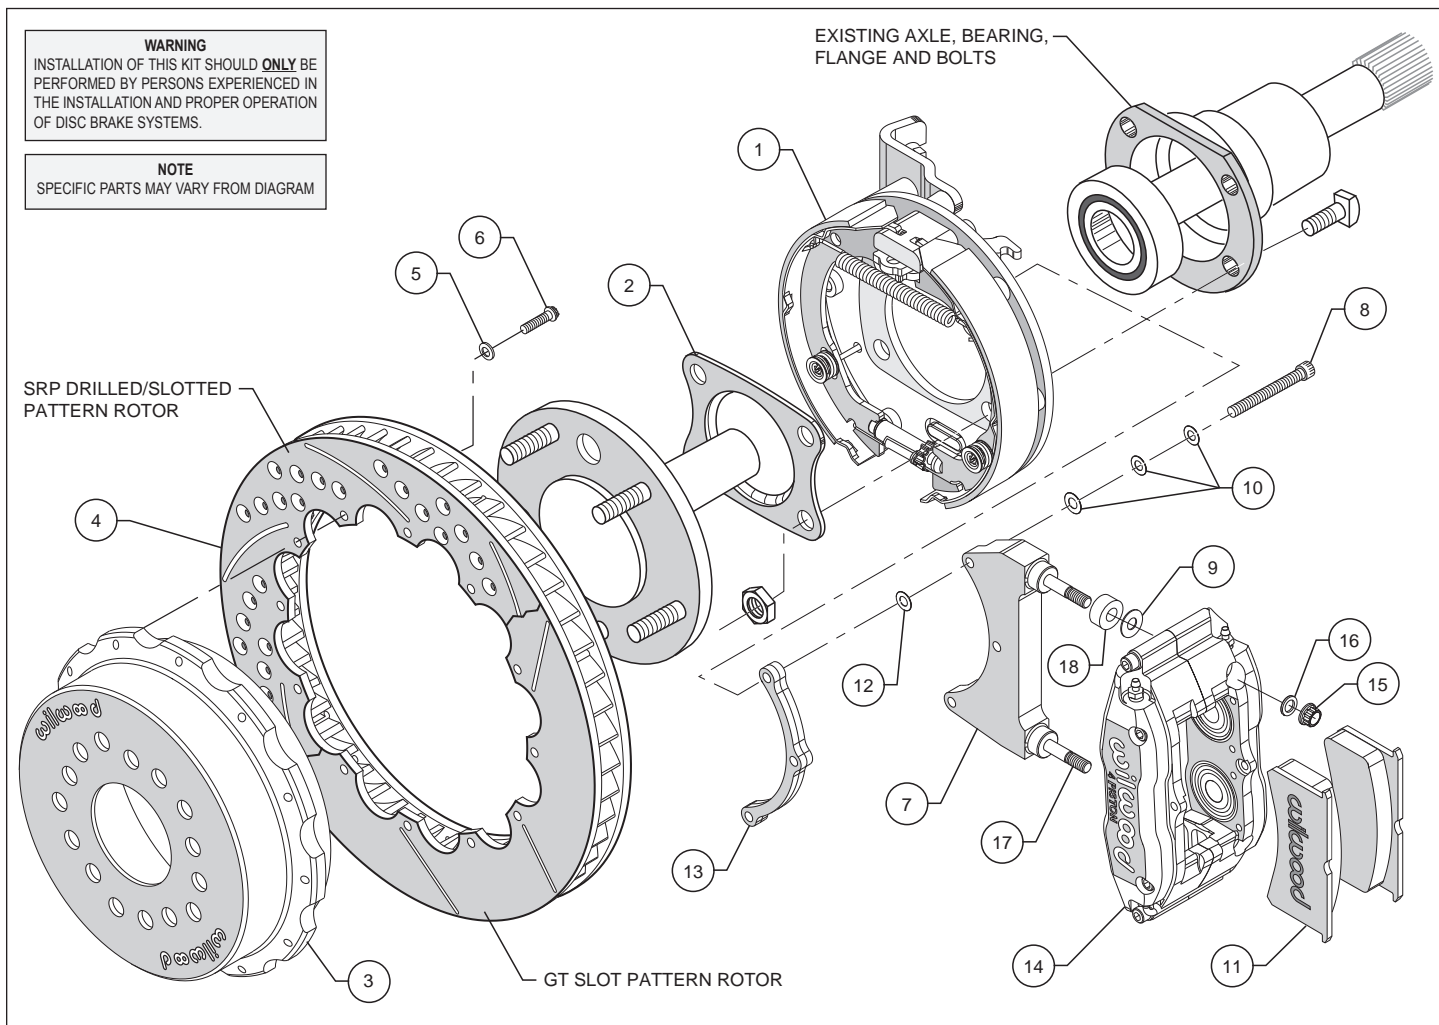

Figure 1. Typical Installation Configuration
- Full Circle Retainers** require the utilization of a qualified machine shop to press off the axle bearing and OEM retainer. Then have machine shop install new retainer (2), supplied with bracket kit with lip facing toward bearing, reference Figures 1, 4 and 5 (we suggest that you install a new bearing at this time, not supplied with kit).
- "U" Retainers** require the removal of the OEM retainer by cutting or grinding a notch in the retainer to facilitate removal. Once OEM retainer is removed, install new retainer (2) supplied with bracket kit with the "U" opening facing up and the lip facing toward bearing, reference Figures 1, 4 and 5.
•Align the correct hole pattern in the hat (3) with the stud pattern on the axle flange. **NOTE:** Some OEM and aftermarket axles come with stud sizes larger than 0.50" diameter. Verify stud size and have a qualified machine shop drill the hats to the correct size, if necessary. Slide the hat/rotor assembly (3 and 4) over the wheel studs covering the bracket kit assembly (1) and against the axle flange face. Check to be sure the hat seats squarely against the hub. Install a couple of lug nuts (finger tighten) to keep the rotor/hat assembly in place while continuing with the installation.
•**NOTE:** Please reference the caution statement at the beginning of the assembly instructions. The caliper mounting bracket assembly (7) should be installed first with clean, dry threads on the mounting bolts (8). Install the bracket from the rear side of the bracket kit assembly (1) by sliding bolt (8) through three flat washers (10), bracket (7), shim washer (12) and finally through the spacer (13), see Figure 1. **NOTE:** End of bolt should not exceed inside face of insert. The bracket must tighten squarely against the back side of the bracket kit assembly (1). Inspect for interference from casting irregularities, machining ridges, burrs, etc. Use one thin shim (12) between the bracket (7) and spacer (13) during initial trial fitting.
•Install one spacer (18) and one shim (9) over each pre-installed stud (17) on the radial mount bracket (7). Slide the caliper (14) in place over the studs and rotor, then install the washer (16) and lock nut (15) to hold the caliper in place. The caliper bleed screws should be pointing up. Snug the lock nuts (15) and check that the rotor (4) is centered in the caliper (14). Add or subtract .015" shims (12) as necessary between the caliper mounting bracket (7) and the spacer (13) to center the caliper (9).
•Remove the caliper center bridge pad retainer bolt, nut, and tube from the caliper. Slide the brake pads (11) into place. They should install easily without interference. Check that the outside radius of the brake pad is aligned with the outside diameter radius of the rotor face. Add or subtract shims (9) between the caliper (14) and mount bracket (7) to gain the proper alignment. Reinstall the center bridge pad retainer tube, bolt, and locknut. The locknut should be snug without play in the bolt or tube. Be cautious not to over tighten.
•Adjust the parking brake shoes outward (using a drum shoe adjustment tool available at your local auto parts store) while spinning the hat (3) until a slight drag is felt against the hat/drum. Remove the lug nuts that were holding the hat/rotor in place. Install the wheel and lug nuts. Check to see that the wheel rotates freely without interference.
•Once all clearances have been checked, remove the wheel, caliper, hat/rotor from the bracket kit assembly (1). Secure the caliper mounting bracket (7) to the bracket kit assembly (1) using red *Loctite*® 271. Torque bolts (8) to 180 in-lb. Reinstall the hat/rotor assembly and again use lug nuts to hold it in place. Lubricate caliper mounting studs and nuts with lightweight oil, reinstall the caliper, torque the caliper nuts (15) to 28 ft-lb.
•**NOTE:** Clevis and cable kits which attach to the parking brake assembly are not included in the Wilwood parking brake kit. Wilwood offers a generic style parking brake cable kit, P/N 330-9371 for this application which can be ordered separately from your local Wilwood dealer or by calling Wilwood customer service at (805) 388-1188.